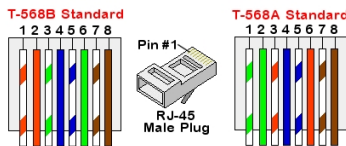

Figure 14: Standard cable wiring
- c. Insert the eight wires into an RJ45 connector (see *Figure 14*).
7. For the switch/router side, use a pre-crimped cable or use a crimper to prepare an RJ45 communication connector: Insert the eight wires into the RJ45 connector in the same order as above (see *Figure 14*).